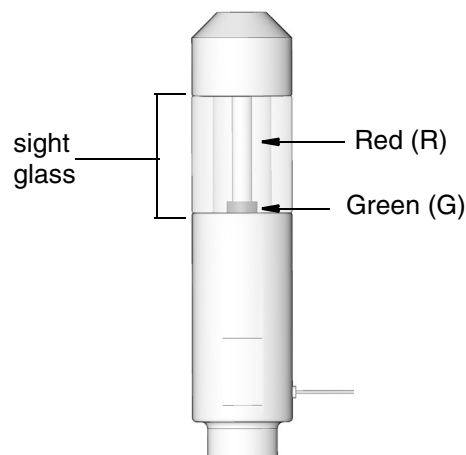

FIG. 17
Low Level Mark (FIG. 17) - Red rod (R) is completely visible with green tube (G) at lowest level. This appearance indicates that the main lubrication supply container is low and needs to be refilled.